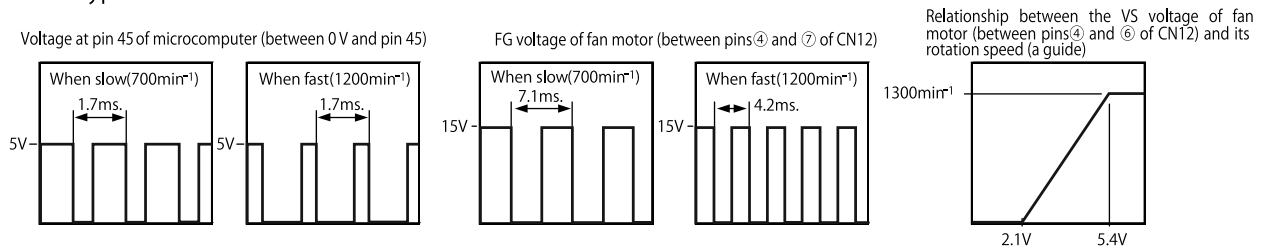

Fig. 2-2
- The indoor fan motor DC Voltage(VDC), Control Circuit Voltage (VCC), and Speed Control Voltage (VS) are supplied from connector CN12. FG is a feedback signal for a indoor fan motor frequency of rotation speed.
- The VS is controlled by microcomputer (IC1). The VS terminal undergoes an analog voltage that matches the LO pulse signal at pin 45 microcomputer(IC1) . (See Fig. 2-2.)